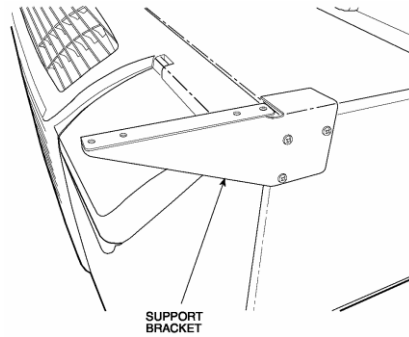

Fig. 4 — Support Bracket Attached to Wall Sleeve
4. Secure bracket (be sure to use correct bracket as there is a left and right bracket) with 3 screws provided. **Do not over tighten.** See Fig. 4.